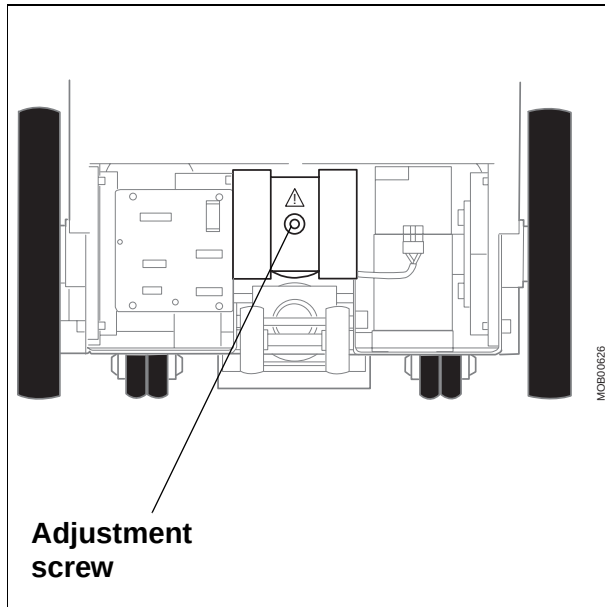

Fig. 16
- Relieve the spring tension by loosening the adjustment screw (Fig. 16).
- Tighten the adjustment screw (Fig. 16) so that the single tank is balanced.